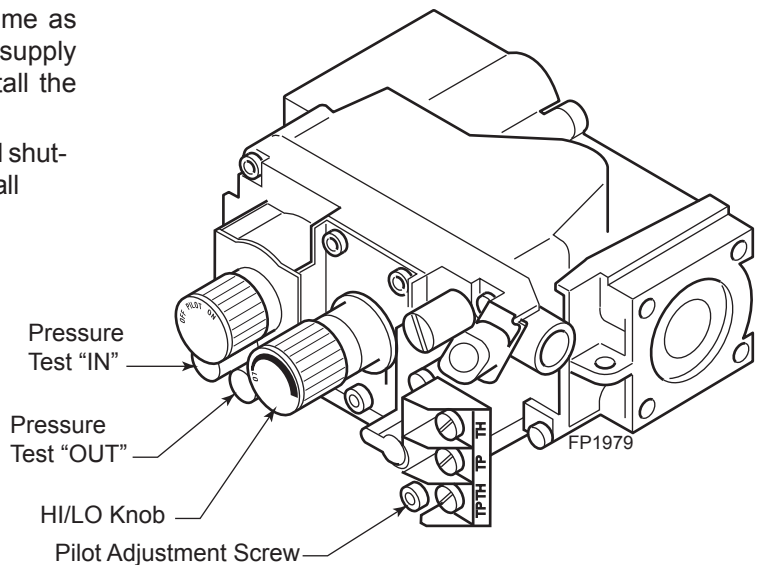

Figure 42 - Gas Pressure Check at Gas Valve
5. To check gas pressures at valve, turn captured screw counter clockwise 2 or 3 turns and then place tubing to pressure gauge over test point. Turn unit to high. *Figure 42.* After taking pressure reading, be sure and turn captured screw clockwise firmly to reseal. Do not over torque. Check test points for gas leaks.